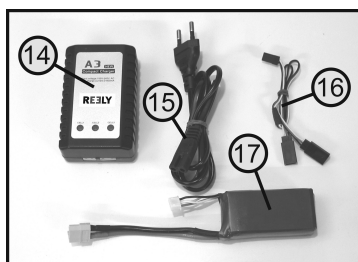

Figure 2
The Y-cable (16) shown in Figure 2 better illustrates the scope of supply. In some cases this cable is not included separately and is built into the model and connected to the receiver.